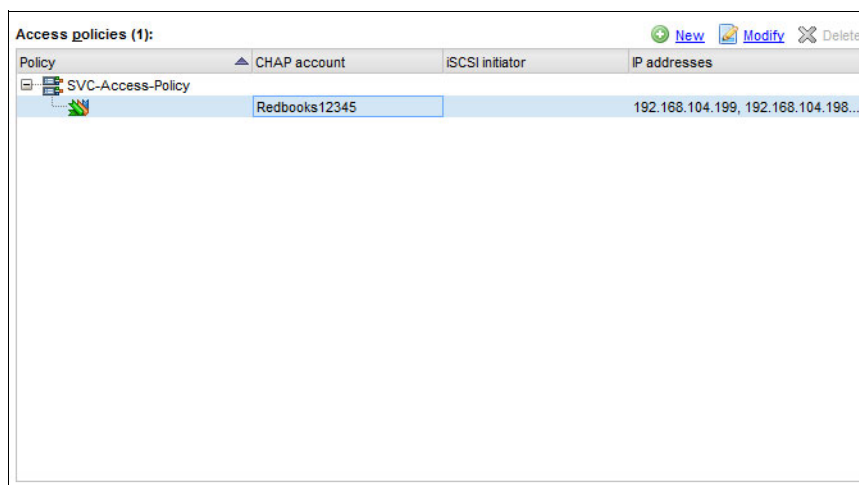

Figure 14-12 Access policy creation completed
- Click **OK**. You see the newly created access policy in the Access Policies tab of the Group Configuration window, as shown in Figure 14-12.